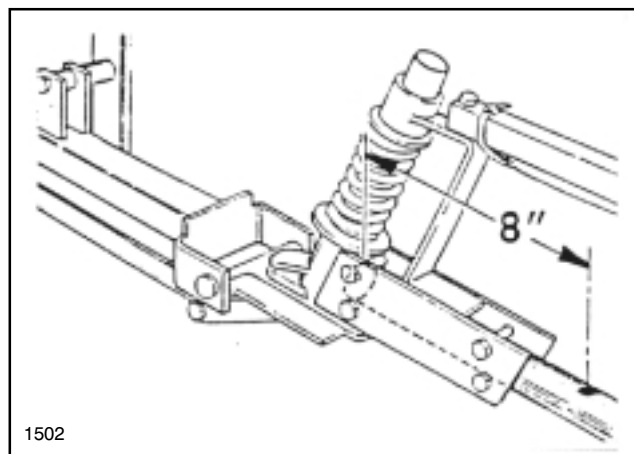

FIG. 4
26. Locate, mark, and drill through the top surface only, one 9/32" dia. hole at 8 inches from the ends of the right and left boom pipes. See FIG. 4.